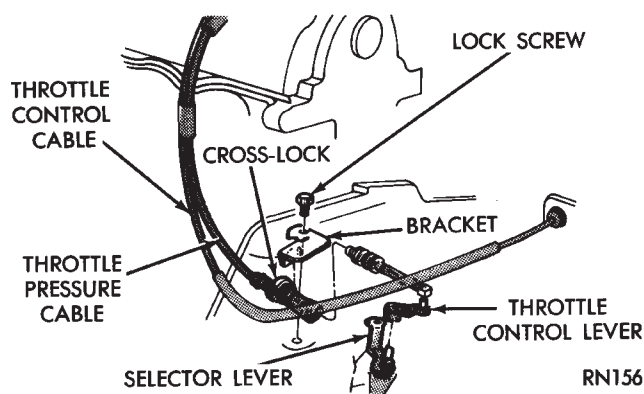

Fig. 7 Throttle Pressure Cable—Typical
- (1) Perform transaxle throttle pressure cable adjustment while engine is at normal operating temperature.
- (2) Loosen cable mounting bracket lock screw.
- (3) Bracket should be positioned with both bracket alignment tabs touching the transaxle cast surface. Tighten lock screw to 12 N•m (105 in. lbs.) see Figure 7.
- (4) Release cross-lock on the cable assembly (pull cross-lock upward) see Figure 7.
(5) To insure proper adjustment, the cable must be free to slide all the way toward the engine, against its stop, after the cross-lock is released.
(6) Move transaxle throttle control lever fully clockwise, against its internal stop, and press cross-lock downward into locked position (Fig. 7).
(7) The adjustment is complete and transaxle throttle cable backlash was automatically removed.
(8) Test cable freedom of operation by moving the transaxle throttle lever forward (counterclockwise). Then slowly release it to confirm it will return fully rearward (clockwise).
(9) No lubrication is required for any component of the throttle cable system.